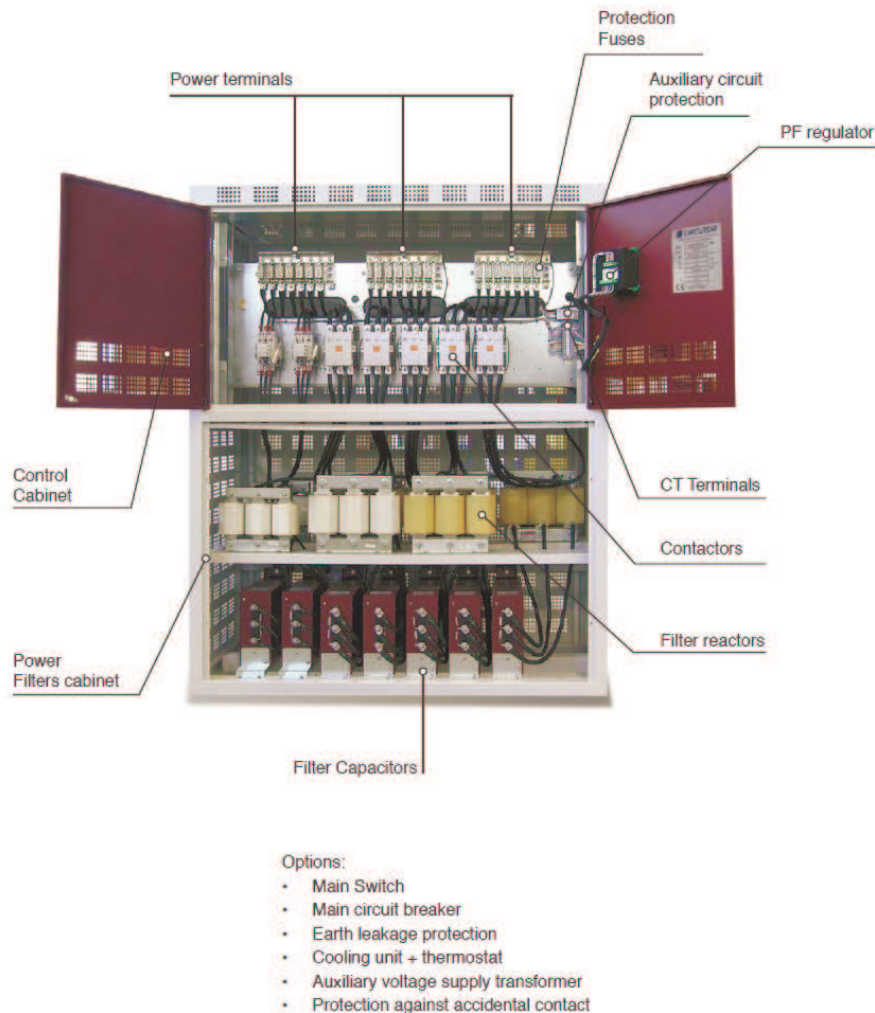

Fig. 4-3 .- FR Filter bank components
Fig. 4-3 shows the different models of filter banks and their essential components. Some protection elements are optional.
- Connect the earth terminal of the filter bank located inside the equipment control cabinet (see Fig. 4-3) to the exterior earth connection. The earth cable section will be selected in accordance with the admissible current limits established in the REBT (ITC-BT-19 – Indoor or receiver installations).
5.3.5 Connecting the current transformer (CT)
- Ensure that the inner circuit breaker supplying the regulator (shown as the operating protection in fig. 4.3) is connected